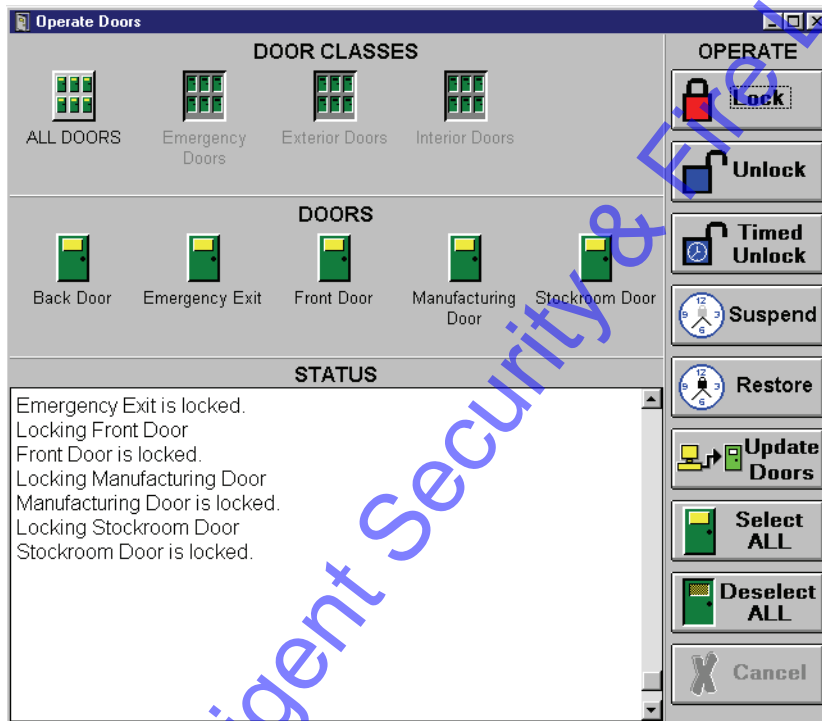

Figure 6-2: Locking All Doors
2. Click on the  button, and then click on the  button. The resulting window should look similar to Figure 6-2.